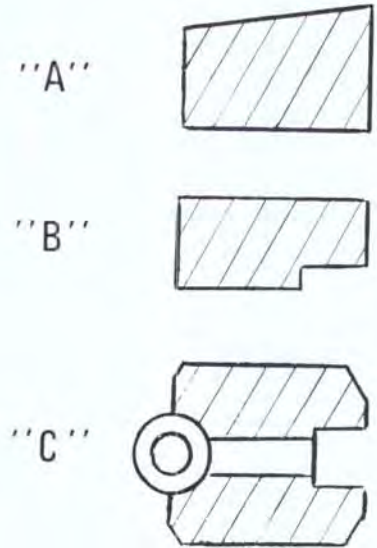

Fig. 36—Cross-sectional view of piston rings of type used on Models L175, L225 and L225DT. Refer to paragraph 32.
Piston ring end gap should be 0.3-0.45 mm (0.012-0.018 inch) for compression rings and 0.25-0.4 mm (0.010-0.016 inch) for oil control ring. Maximum wear limit for any ring is 1.25 mm (0.049 inch). Top compression ring is half-keystone type as shown at (A—Fig. 36) and side clearance is not measured. Second compression ring should have a side clearance of 0.065-0.09 mm (0.0025-0.0035 inch) and ring is installed with notched outer edge down as shown at (B). Oil control ring should have a side clearance of 0.02-0.06 mm (0.0008-0.0024 inch).